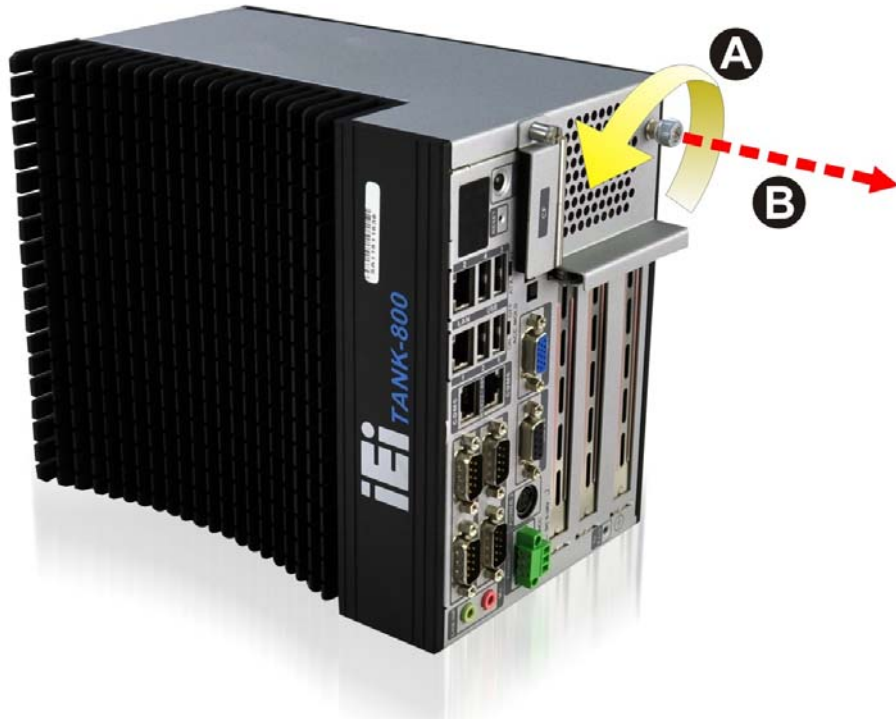

Figure 3-4: Unscrew the Cover
Step 1: Loosen the thumbscrew, slide the cover inwards (Figure 3-4), and then lift the cover up gently.
Step 1: Loosen the thumbscrew, slide the cover inwards (**Figure 3-4**), and then lift the cover up gently.